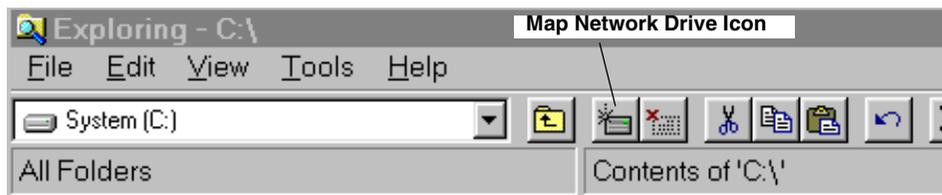
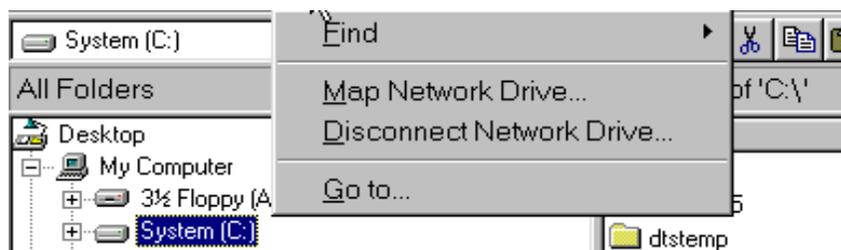

Figure 2. Map Network Drive Icon
Figure 3. Network Drive Menu
2. Use either the Map Network Drive icon (Figure 2) if View⇒Toolbar is on or Tools⇒Map Network Drive Menu (Figure 3) if the icons are not used.